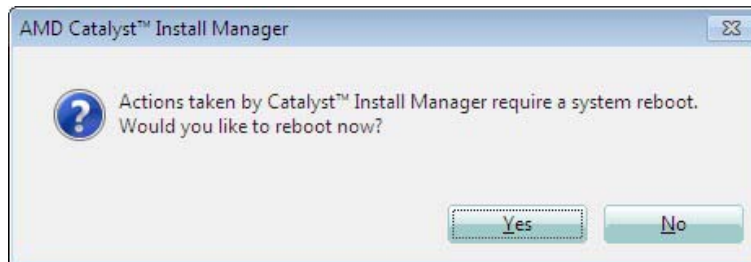

Figure 6-7: Reboot Screen
Step 12: The message in **Figure 6-7** appears. Click **Yes** to restart the system.